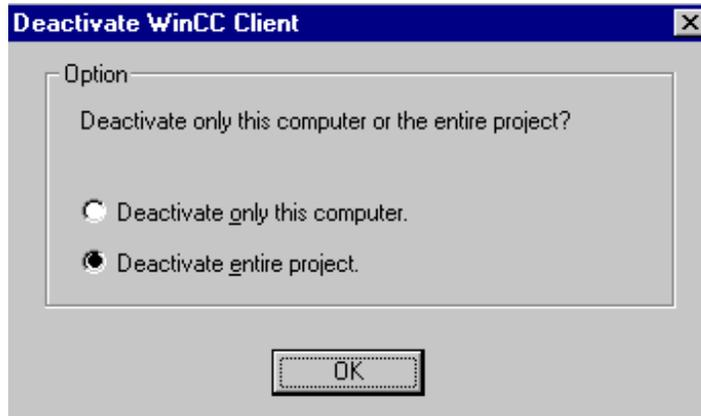

Figure 7.12 WinCC Project "QckStart"; Viewing Client Changes
3. If you are on a client computer, a dialog box will appear and you will be asked if you wish to deactivate only that client computer or the whole project. View Figure 7.12 for reference.